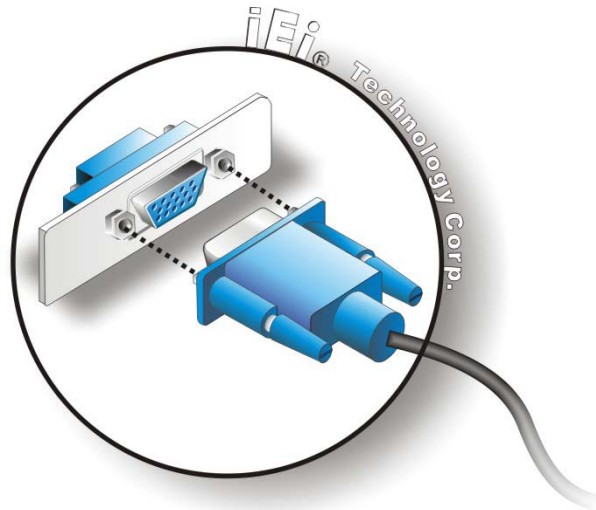

Figure 3-25: VGA Connector
Step 3: Insert the VGA connector Once the connectors are properly aligned with, insert the male connector from the VGA screen into the female connector on the TANK-820. See **Figure 3-25**.